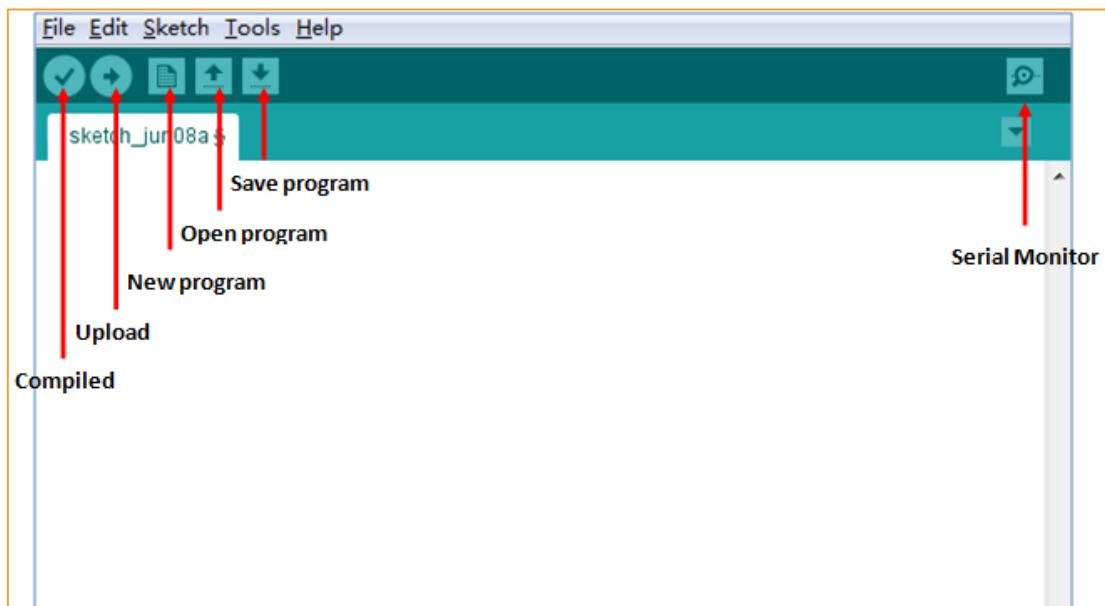

Figure 2.1.12 Arduino IDE Interface
1.The first thing you can see is the interface of the following figure. The functions of the toolbar buttons are "Compile" - "Upload" - "New Program" - "Open Program" - "Save Program" - "Serial Monitor" , as shown in Figure 2.1.12.